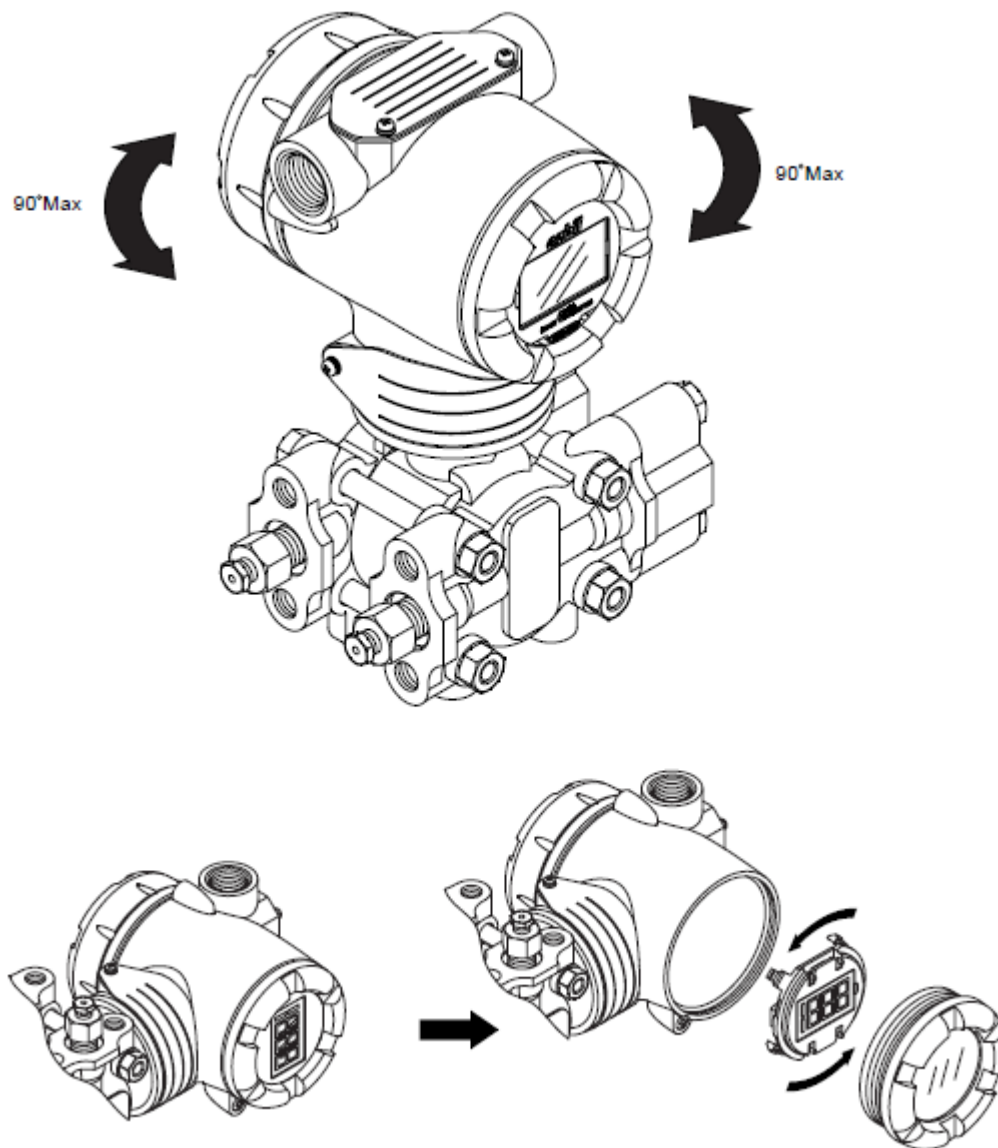

Figure 3. Change Direction of Indicator after Mounting
- b. Rotate digital display module as indicated in Figure 3.